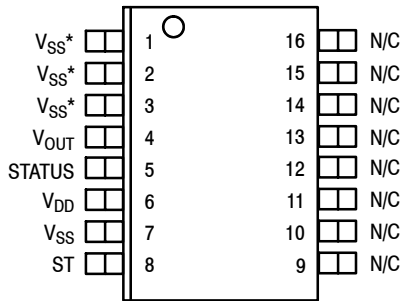

Figure 3. Pinout Description
- Place a ground plane beneath the accelerometer to reduce noise, the ground plane should be attached to all internal VSS terminals shown in Figure 3.